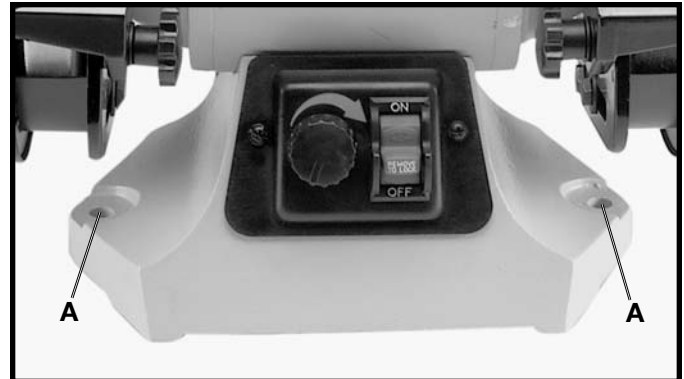

Fig. 9
IF DURING OPERATION THERE IS ANY TENDENCY FOR THE GRINDER TO TIP OVER, SLIDE OR "WALK," THE GRINDER MUST BE SECURED TO THE SUPPORTING SURFACE USING FASTENERS (NOT SUPPLIED) THROUGH THE TWO HOLES (A) Fig. 9, IN THE GRINDER BASE.